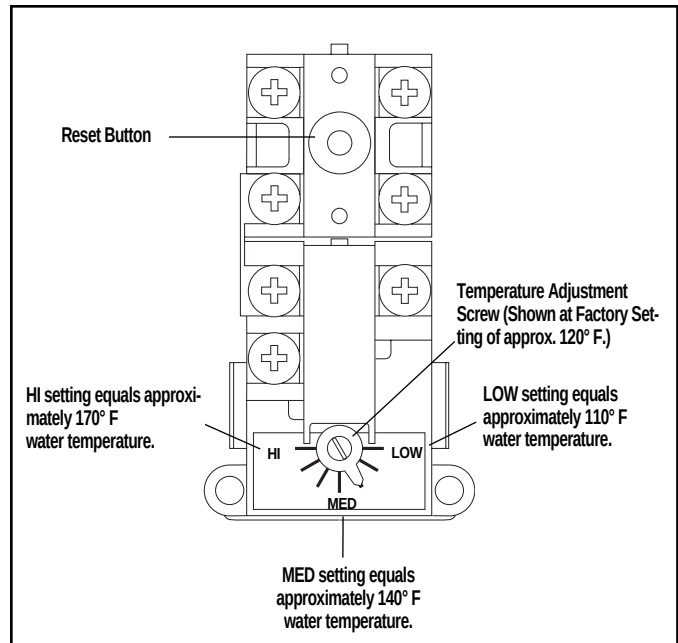

Figure 11 — Upper Thermostat temperature adjustment.
- Remove the four (4) screws securing the thermostat access panel and the two (2) thermostat insulation pads, exposing the thermostat. The plastic personnel protector **should not be removed**.
- With a small screwdriver, adjust the thermostat setting. This thermostat is marked LOW / MED / HI. The 120°F factory set position (the recommended setting) is at the 5 o'clock position (Refer to Figure 11). The temperature settings range from approximately 110°F (LOW) to approximately 170°F (HI). The MED position results in approximate water temperature of 140° F.
- Replace the two (2) pieces of fiberglass insulation over the thermostat and attach the thermostat access panel.